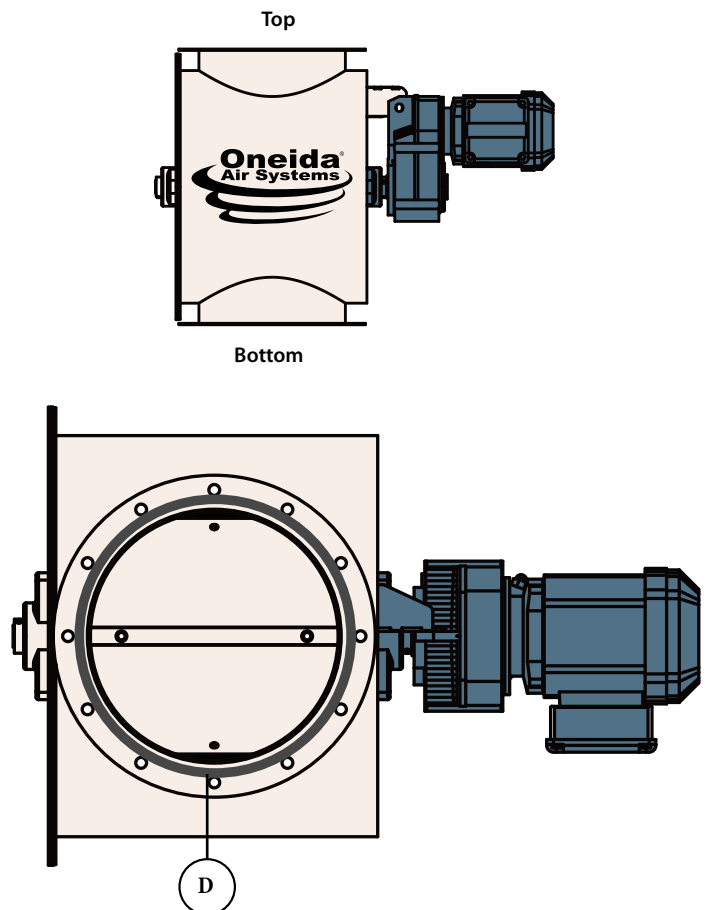

FIG. 8
- 8** Apply the Gasket (D) to the top of the Air Lock Assembly (A) as show in [FIG. 8].